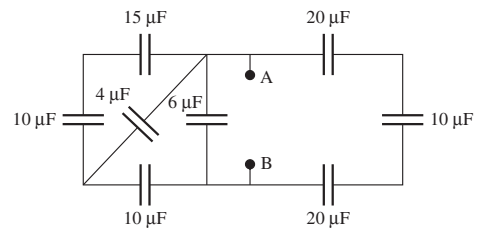

FIGURE P4.31 Capacitor network.
- 4.31 (H) Find the equivalent capacitance between points A and B in Figure P4.31.